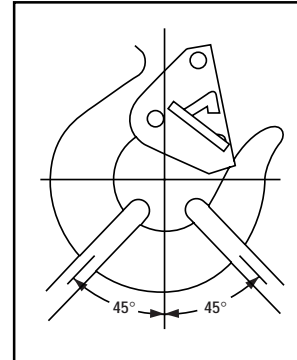

Figure 5
- When placing two (2) sling legs in hook, make sure the angle from the vertical to the outermost leg is not greater than 45°, and the included angle between the legs does not exceed 90° (See Figure 5).